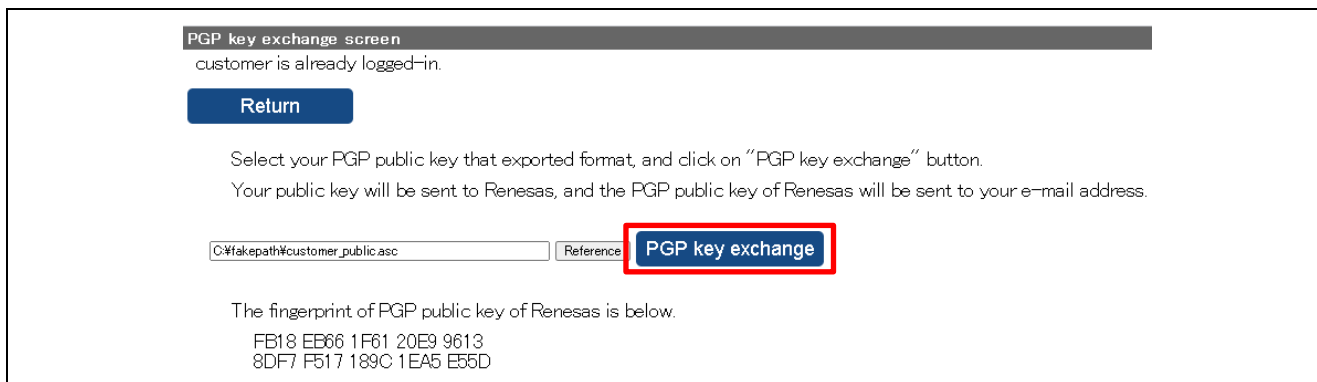

Figure 29. Exchange Keys
10. Confirm that the Fingerprint displayed is same as what is shown on the screen represented in Figure 29. Click **Certify**.